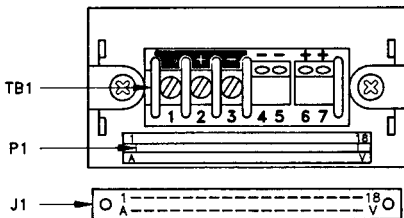

Figure 4-2 Rear View of Case with Connectors
1. Refer to Figure 4-2. Apply the input signal to TB1-5 (SIG LO) and TB1-6 (SIG HI).
3. Refer to Figure 4-2. Connect the four input leads from the bridge to TB1-5 (SIG LO), TB1-6 (SIG HI), TB1-4 (-EXE) and TB1-7 (+EXE).